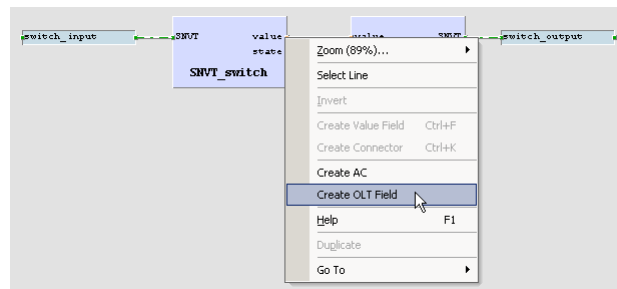

Figure 64: Create online test fields
12. For later debugging, it is good practice to add online test fields to the drawing, to display the current value of the signals during online test. To do this, right-click on the value output of the left function block and select **Create OLT Field** from the context menu, as shown in Figure 64.